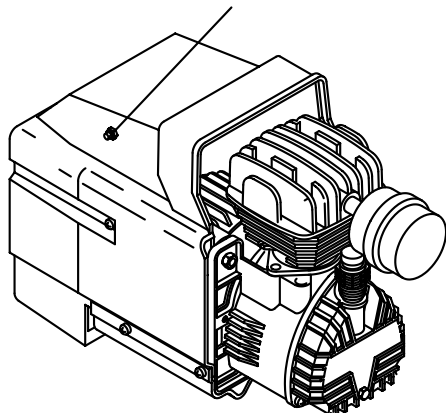

Fig. 9
- (2) If the extension cord does not conform to the specifications given on page 7 replace with an extension cord such as that shown on page 7. If the capacity of the power supply is insufficient, increase the power supply capacity to remove the cause of a flow of excessive current (over-current).
- (3) Wait approximately 5 minutes, then press the reset switch of the thermal protector (Fig. 9).